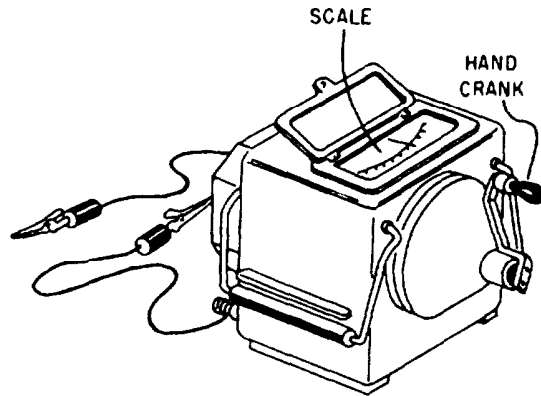

Figure 3-37.—Megohmmeter.
much higher potential than that supplied by the battery of an ohmmeter. This potential is placed between the conductor and the outside of the insulation. A megohmmeter (Megger) is used for these tests. Figure 3-37 shows a portable megohmmeter with two main elements: (1) a hand-driven dc generator, which supplies the necessary voltage for making the measurement, and (2) the instrument portion, which indicates the value of the resistance you are measuring.